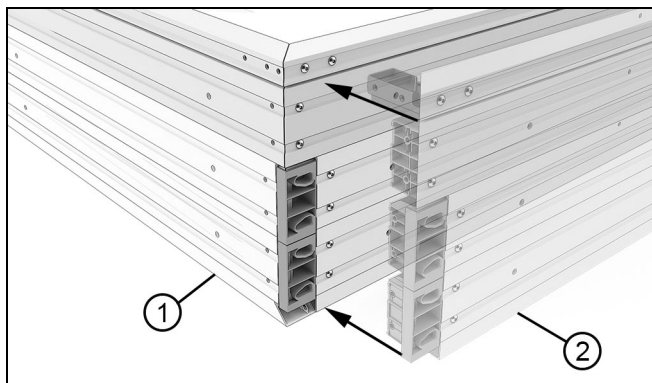

Figure 44
2. Align the end of one side jamb with the head jamb and slide until the miter is flush. See Figure 44